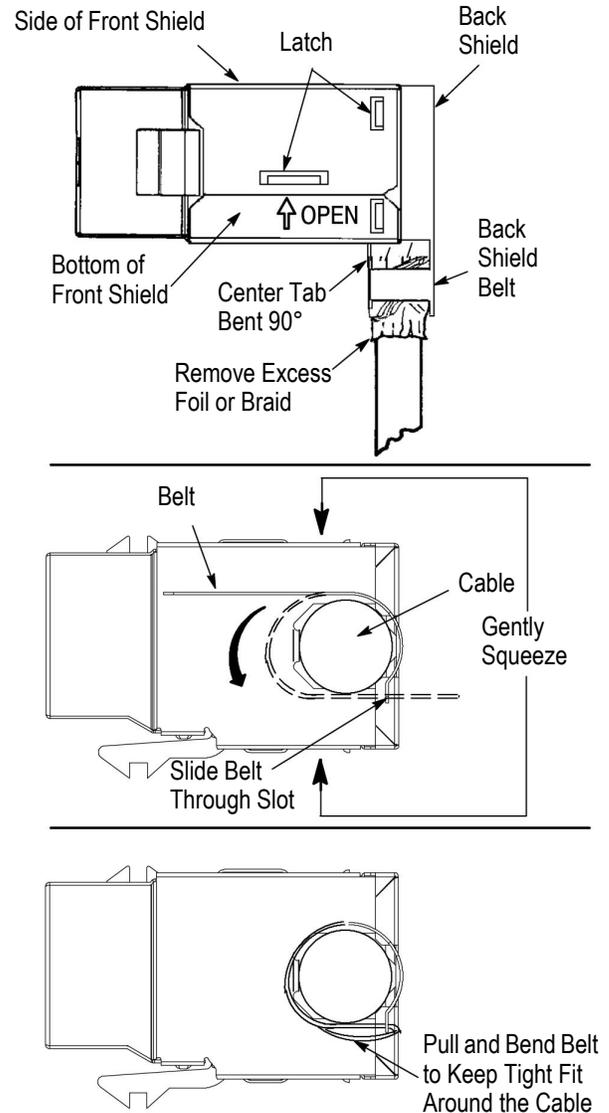

Figure 4
10. Install front shield around jack as shown in Figure 4. Pinch sides of shield and simultaneously pinch top and bottom of shield. The latches should engage securely on the top and bottom of the shield.
Insert a small screwdriver under the latches on the top and bottom front shields (area indicated by "OPEN" and an arrow - see Figure 4). Pry latches apart and open front shields.